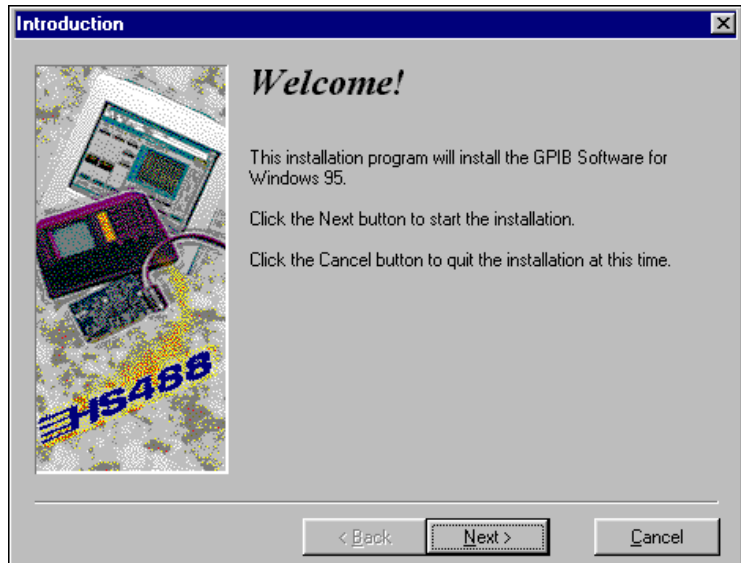

Figure 2-2. GPIB Software Setup Screen
4. Insert the *GPIB Software for Windows 95 (Disk 1 of 2)*, and click on the **Next** button to proceed. The software installation wizard begins with the screen shown in Figure 2-2.